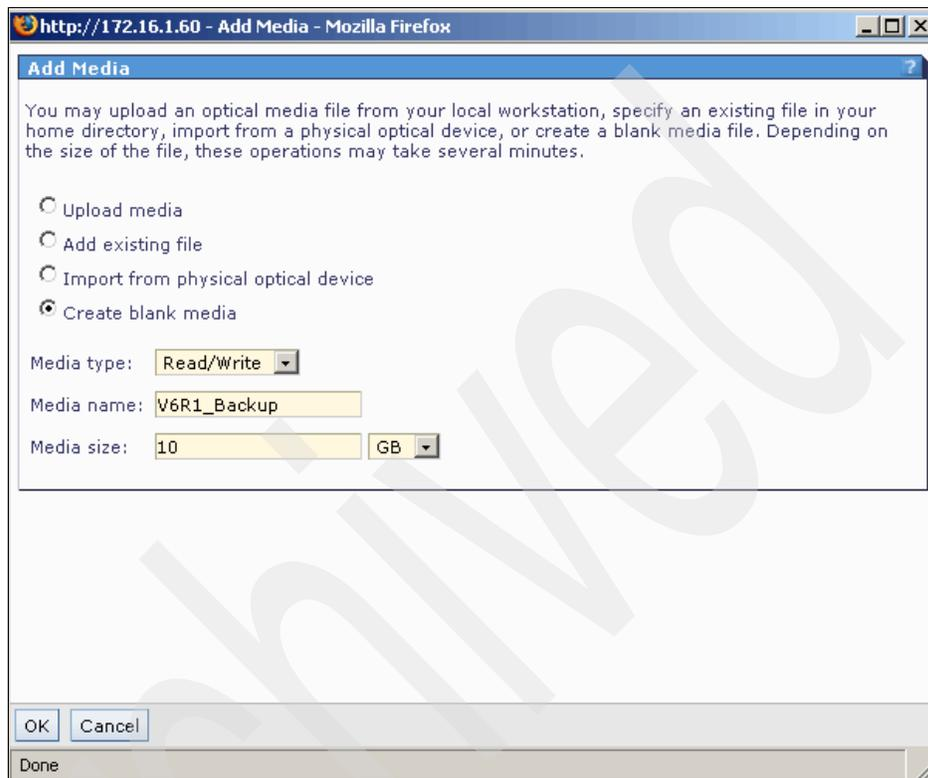

Figure 5-53 IVM Create blank media
- To add a new virtual optical device to the media library, select **Add Media** in the Virtual Optical Media section. The window displayed in Figure 5-53 will appear.